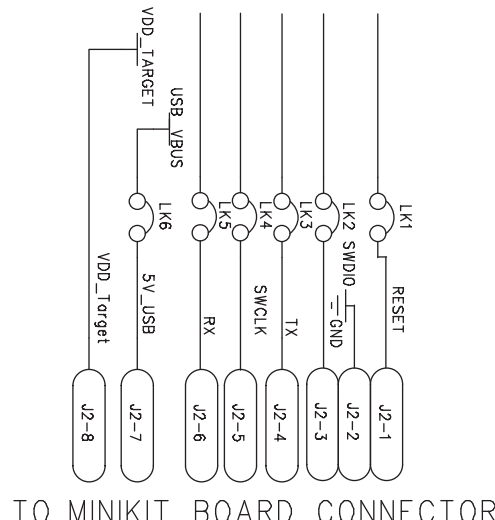

Figure 5. J-Link OB Connection Details
4. If using the virtual serial communication port to the UART, ensure Jumpers LK3 and LK5 are in place on the board (see Figure 5). If using the UART on the J8 connector, remove Jumpers LK3 and LK5 to prevent contention.